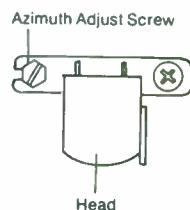

Fig. 19
4. Turn the azimuth adjusting screw so that outputs of Lch and Rch are each at maximum symmetrically (Fig. 19).